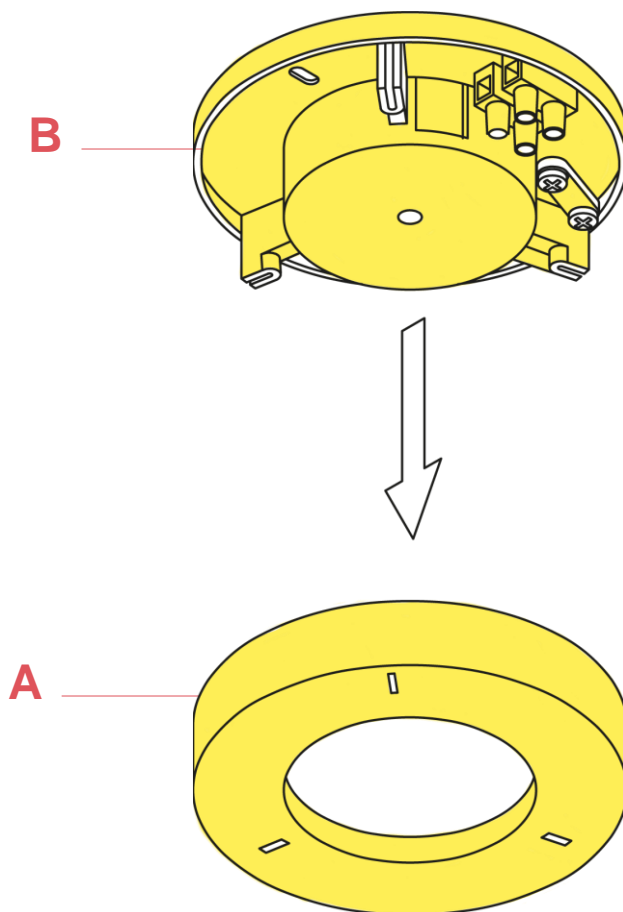

Fig.1
Hook the ceiling rose (A) to the wall attachment (B).(Fig.1 page 4)